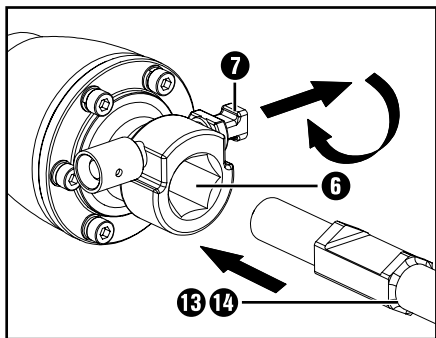

Fig. 2
- ◆ Place the chisel **13** / **14** with the milled groove pointing in the direction of the locking pin **7** (see fig. 2).